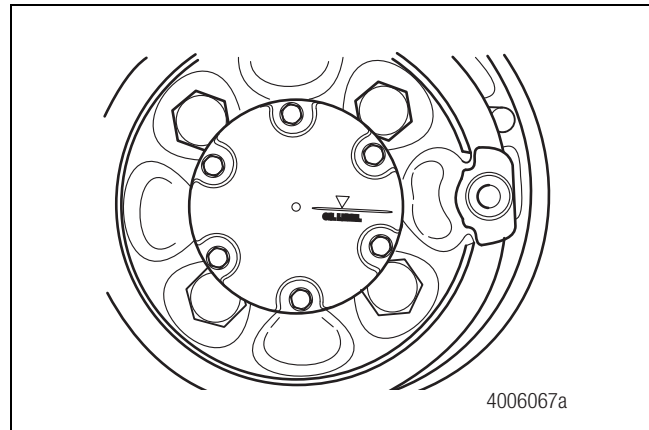

Figure 5.28
9. Align the "Oil Level" line on the cover plate with the drain/fill plug. Install the cover plate onto the hub housing immediately to ensure the silicone gasket material compresses evenly between the sealing surfaces. Figure 5.28.